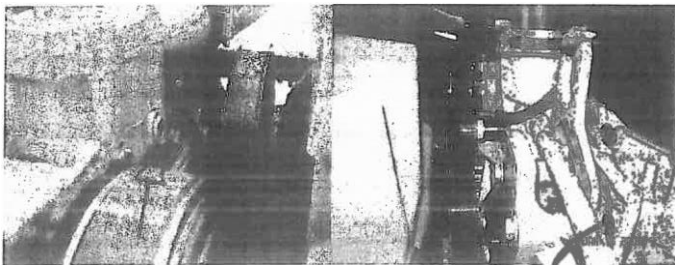

Figure 1 – C13
2. For CAT C13 thermostat: Remove one of the two possible 3/4-16" plugs located at the front of the thermostat housing behind the radiator fan (see Figure 1).